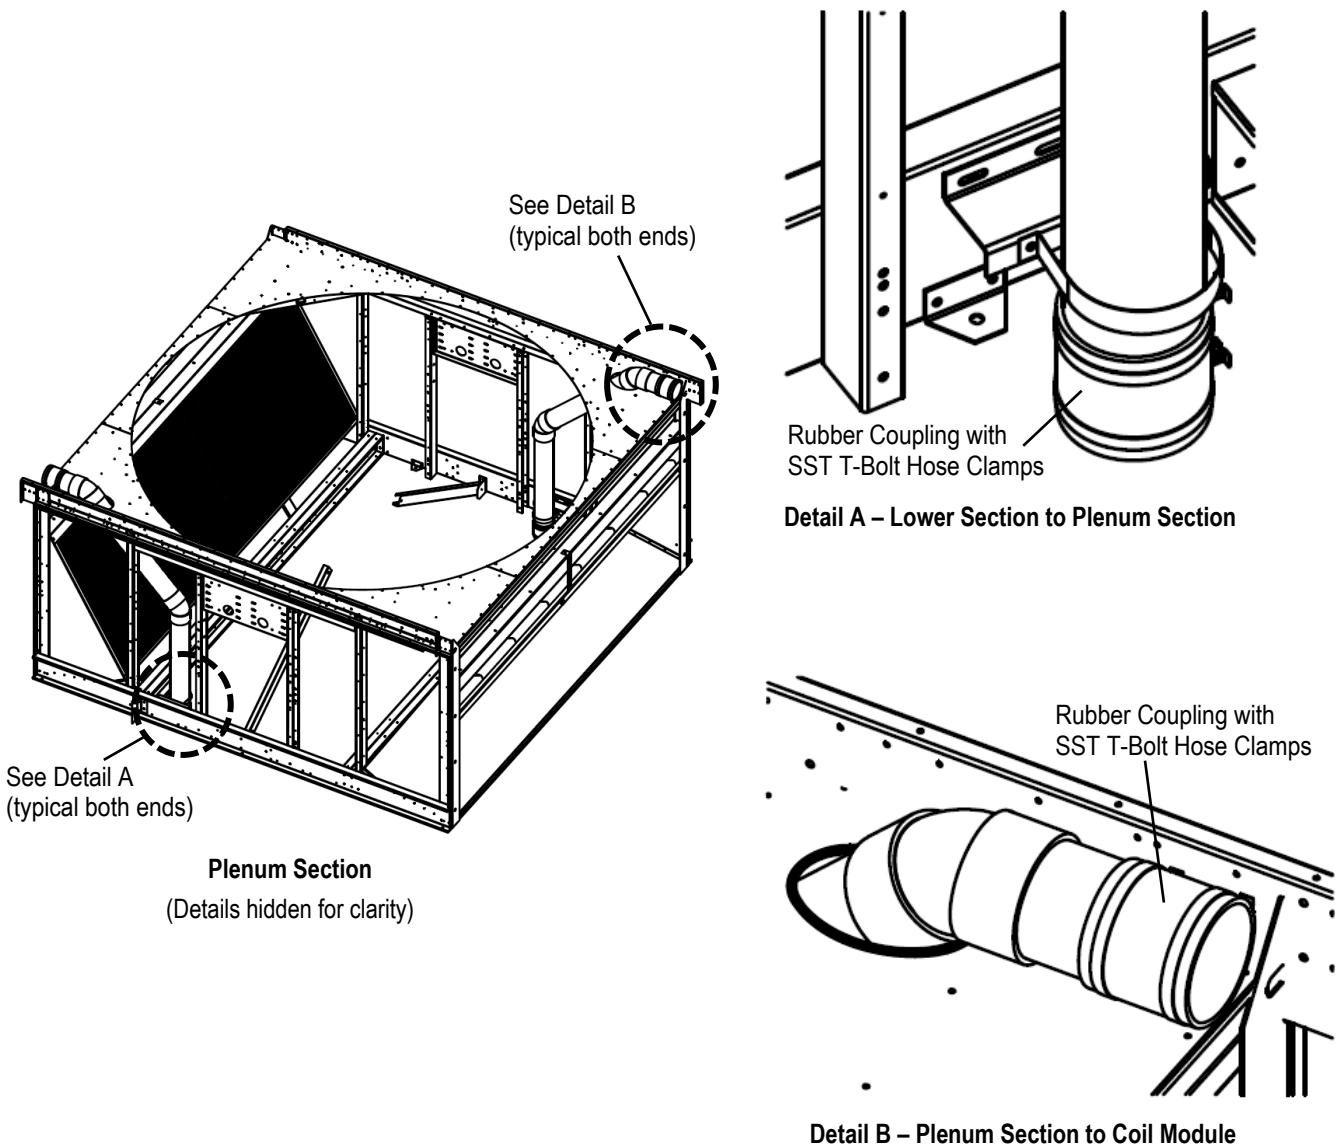

Figure 13. Internal Spray Water Piping Connections
9. Connect the lower section and plenum section internal spray water piping by using rubber couplings and SST T-bolt hose clamps. Refer to **Figure 13** for connection details.
16. Connect the plenum section and coil module internal spray water piping by using rubber couplings and SST T-bolt hose clamps. Refer to **Figure 13** for connection details.